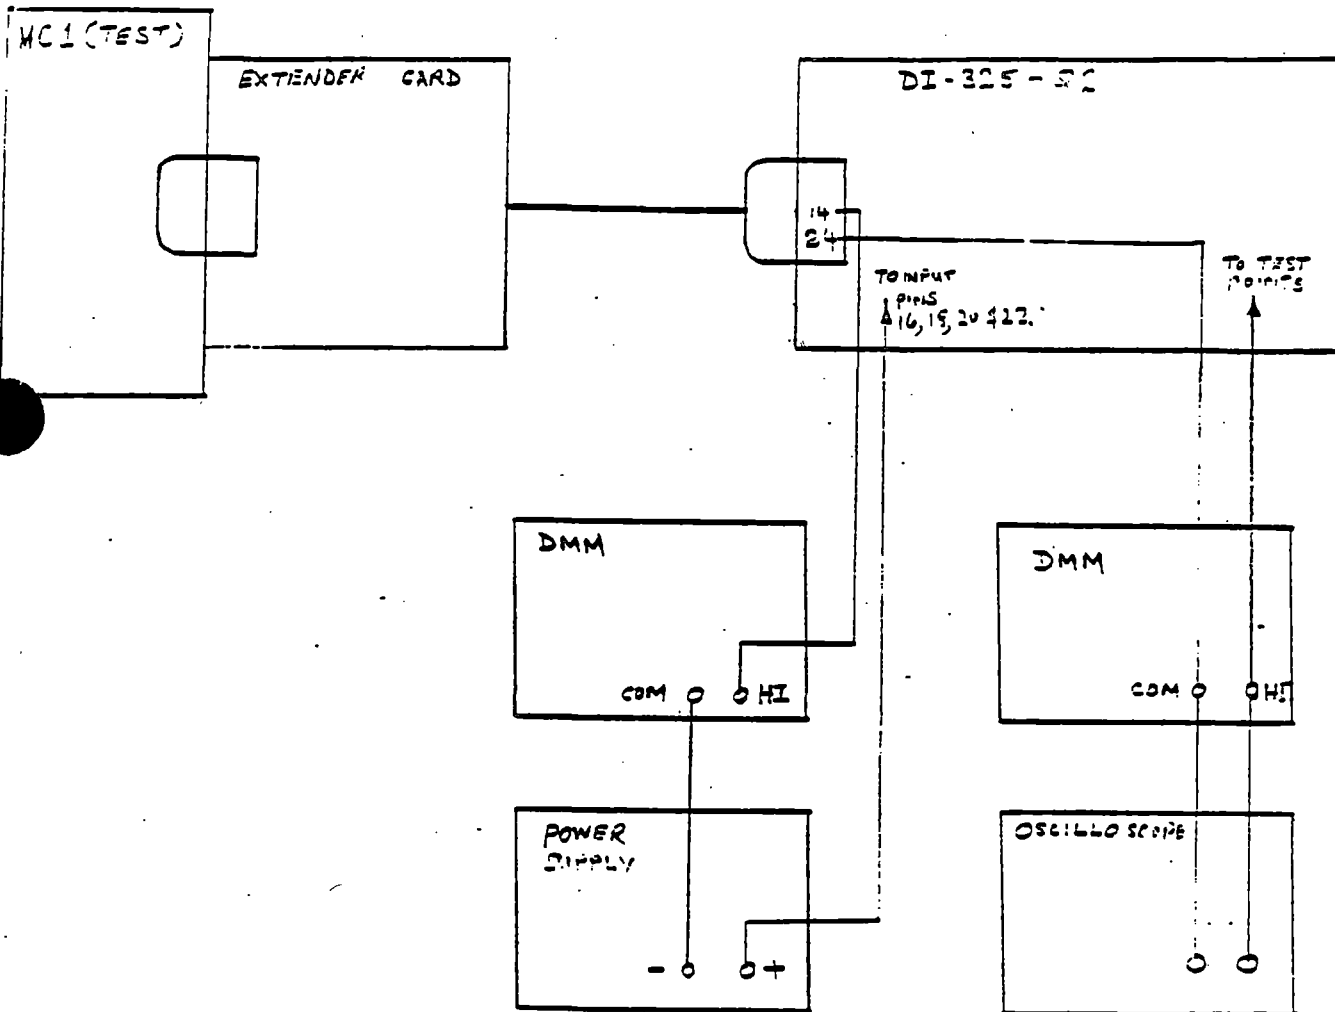

FIGURE 2. INITIAL TEST SETUP
4.1 Connect MC1-X, extender card, digital multimeters (DMM's), power supply and oscilloscope as shown in Figure 2.